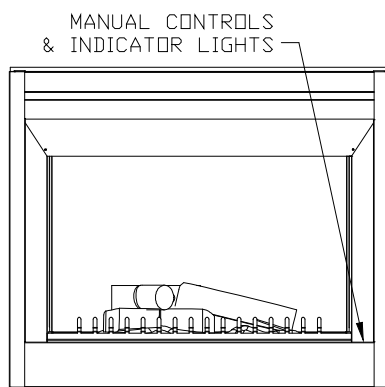

FIGURE 2
2. Access the manual controls, (remove glass doors if applicable) pull the right hand steel curtain to the outside of the unit. (FIGURE 2)